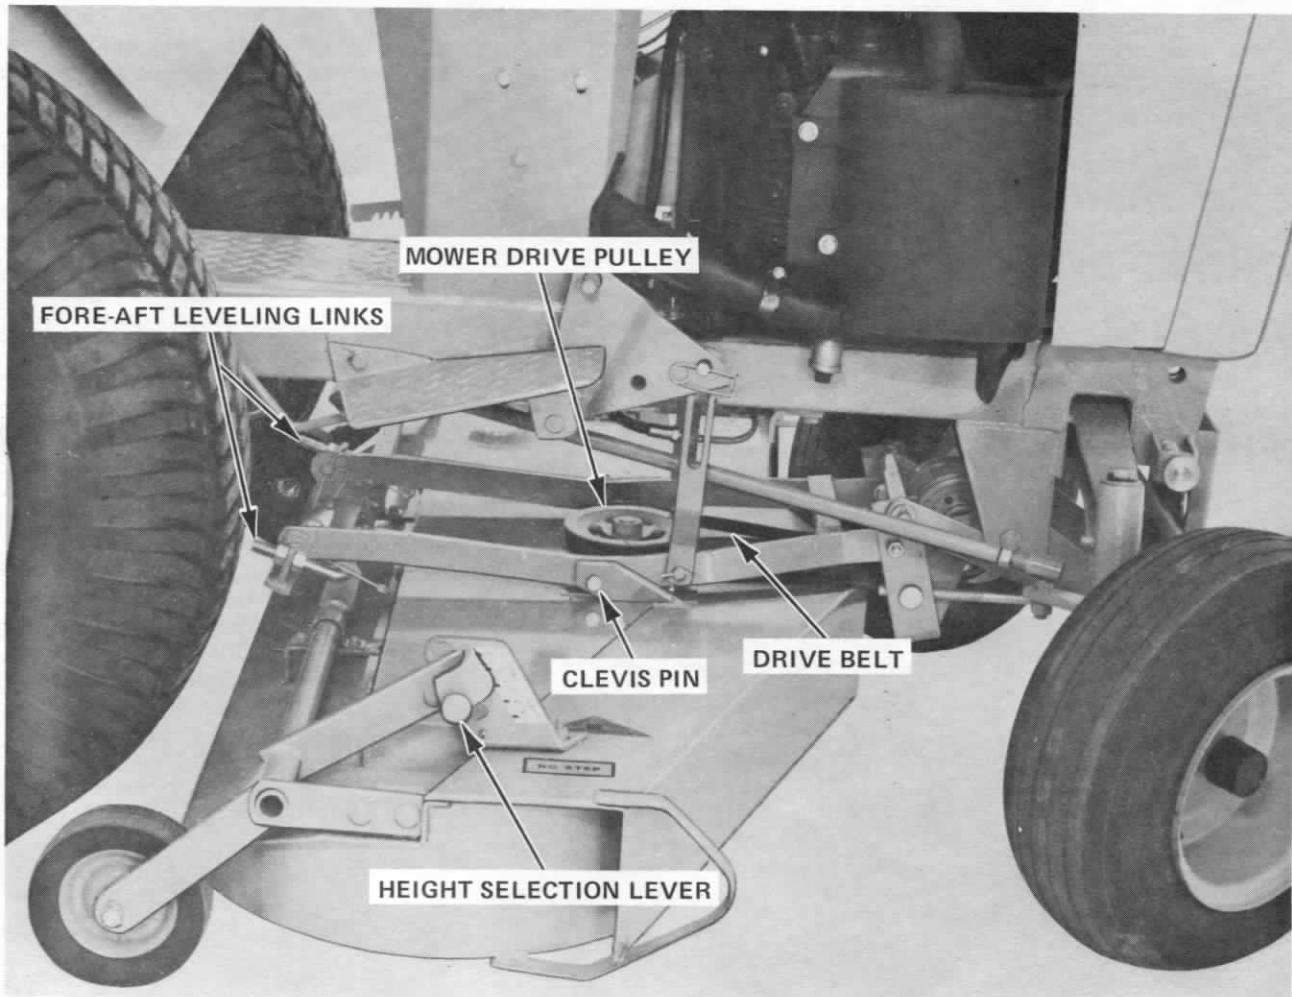

FIGURE 16 MOUNTING THE J-46 MOWER DECK
- Place the height selection lever in the  $1\frac{1}{2}$ " setting to gain additional clearance and slide the mower under the tractor from the right hand side and align the deck with the attaching holes in the mounting bracket. Lower the mounting bracket to the mower deck. Refer to Figure 16.
- Install the Fore-Aft leveling links to the mounting bracket as illustrated in Figure 16.